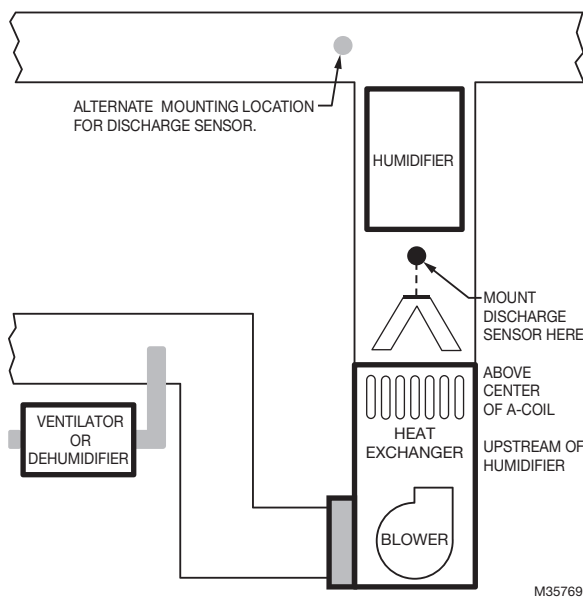

Fig. 4.
2. When possible, mount the Discharge Air Temperature Sensor upstream of a Steam Humidifier, a Fan Powered Humidifier or a Dehumidifier that is ducted to the supply. See Fig. 4–5.
3. If space does not allow a Discharge Air Temperature Sensor upstream of a Steam Humidifier or Fan Powered Humidifier, mount the Discharge Air Temperature Sensor downstream of the Humidifier. See Fig. 4.